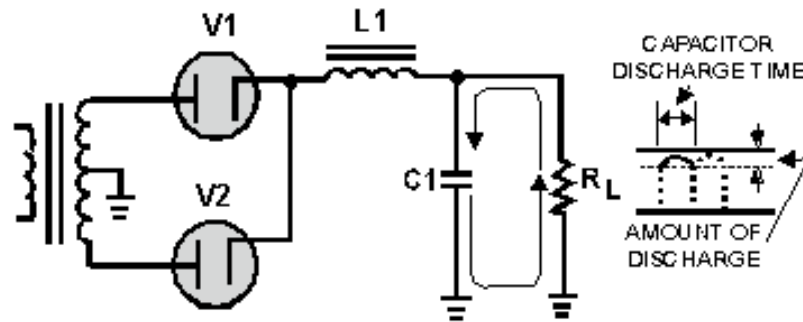

Figure 3-29.—LC choke-input filter (discharge path).
As a result, when the pulsating voltage is first applied to the LC choke-input filter, the inductor or filter choke (L1) produces a counter emf that opposes the constantly increasing input voltage. The net result is to effectively prevent the rapid charging of the filter capacitor (C1). Thus, instead of reaching the peak value of the input voltage, C1 only charges to the average value of the input voltage. After the input voltage reaches its peak and decreases sufficiently, the capacitor (C1) attempts to discharge through the load resistance (RL). C1 will attempt to discharge as indicated in figure 3-29. Because of its relatively long discharge time constant, C1 can only partially discharge.